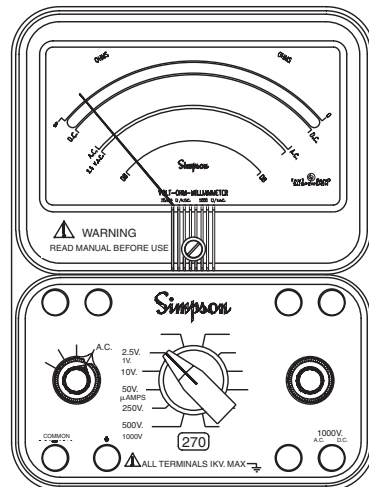

Figure 4-3. Jacks and Switch Positions for measuring AC Voltages
- a. Set the function switch at AC (Figure 4-3).
- Set the function switch at AC (Figure 4-3).